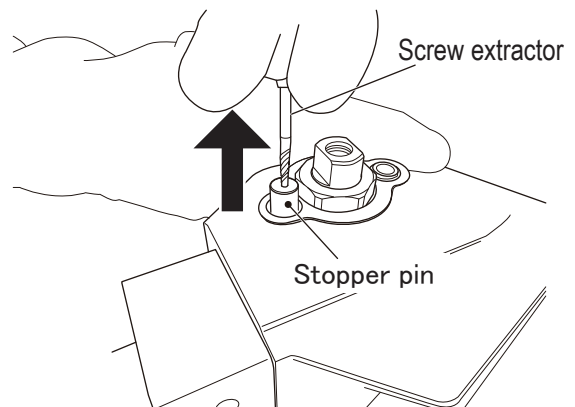

Fig. 6
- f. Pull out the stopper pin together with the screw extractor. (Fig.6)